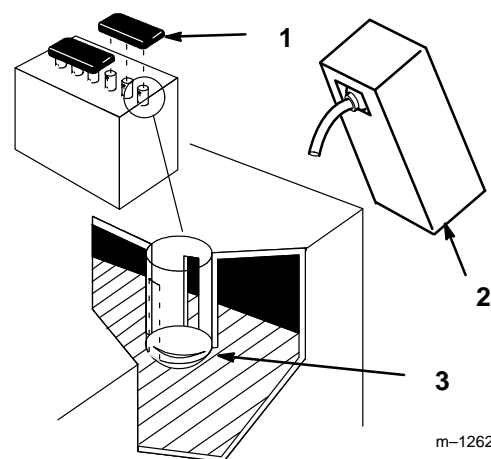

Figure 2
2. Remove filler caps from the battery. Slowly pour electrolyte into each cell until the electrolyte level is up to the lower part of the tube (Fig. 2).
5. Slowly pour electrolyte into each cell until the level is once again up to the "UPPER" line on the battery case (Fig. 2) and install covers.